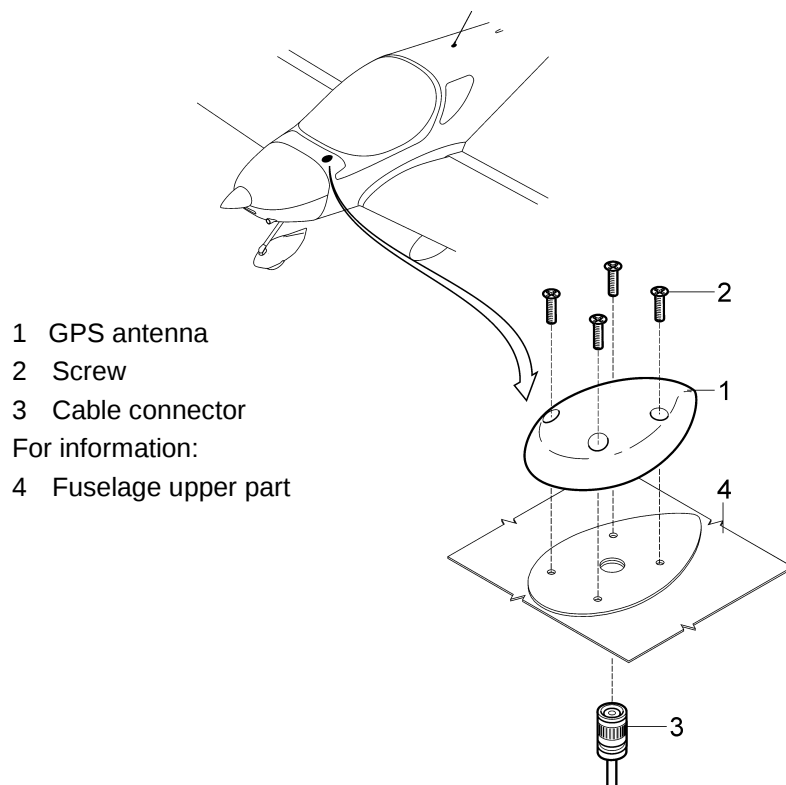

Fig. 12-38: GPS antenna removal / installation
- (b) Disconnect the connector (4, Fig. 12-38) from the antenna.
- (d) Remove the screws (2) with and the antenna (1).
- (b) Place the antenna (1, Fig. 12-38) on the fuselage (4).
- (c) Insert the screws (3) to the holes in the antenna body (1); screw and tighten the screws.
- (e) Connect the connector (3) to the antenna (1).